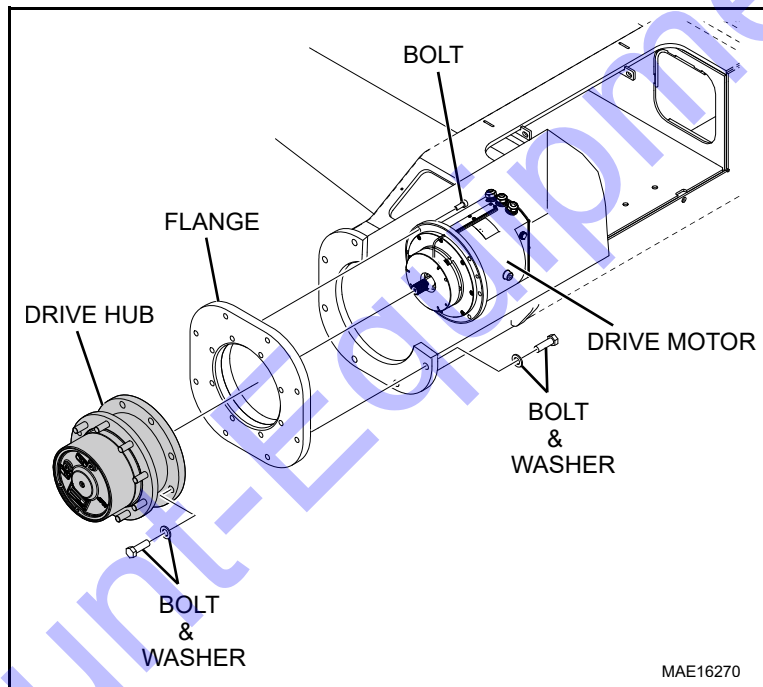

Figure 3-8. Drive Hub
**NOTE:** Refer Figure 3-8., Drive Hub.